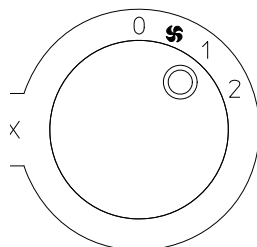

fig. 4
- To activate MINIMUM POWER function, turn knob "B" (fig. 1) so that reference mark "I" is aligned with the "I" symbol on the control panel (fig. 4).